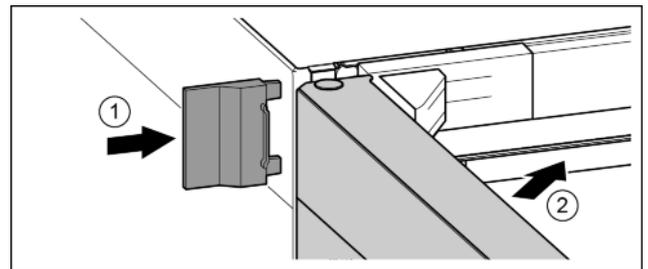

Fig. 17
- ▶ Slide on the external cover. Fig. 17 (1)
- ▶ Close the upper door. Fig. 17 (2)